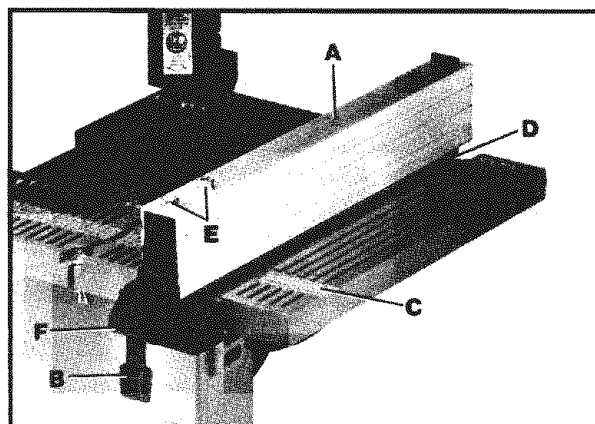

Fig. 25
The accessory rip fence (A) Fig. 25, can be moved along the table surface by lifting lock lever (B) and sliding the rip fence (A) to the desired location on the table. Push down on lever (B) to firmly lock rip fence in position on the table. **NOTE:** A handy English/Metric scale (C) indicates the distance the fence is positioned from the saw blade.
For accurate work, the rip fence (A) Fig. 25, must be parallel to the miter gage slot (D). Move the rip fence (A) to the edge of the miter gage slot and check the alignment. If an adjustment is necessary:
1. Loosen two screws (E) Fig. 25, and raise locking lever (B).
2. While holding rip fence bracket (F) Fig. 25, firmly, move the far end of the fence (A) until it is parallel with the miter gage slot (D).
3. Tighten two screws (E) Fig. 25, and push down on locking lever (B).
4. Clamping action on the rip fence (A) Fig. 25, can be tightened or loosened by lifting locking lever (B) and rotating lever (B) clockwise or counterclockwise as necessary.